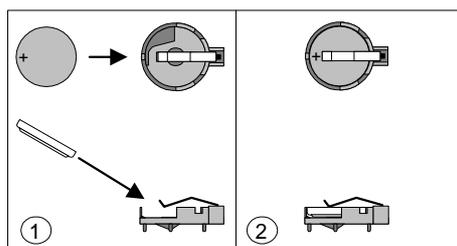

Figure 10: Removing the Battery
5. Figure 1 shows the battery location. Gently pry the battery free from its socket, taking care to note the "+" and "-" orientation of the battery (Figure 10).